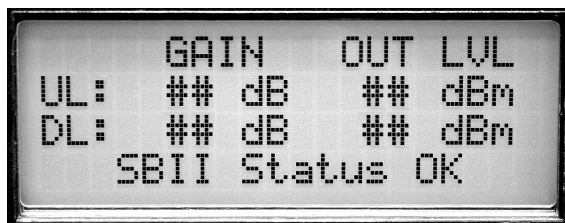

Figure 7: Normal Operational LCD Display.
- 5) The LCD display should appear similar to **Figure 7** after the self check is complete.
Once the boot-up sequence is completed (after several seconds) the LCD screen will switch to the main status display as shown in figure 7. This is the normal display for the signal booster. The system will return to this display from any other display if none of the menu interface buttons are pressed within 2 minutes. The exception is the OLC status display which does require a button press to exit. The main status display shows the uplink and downlink gain in dB as well as the uplink and downlink output level in dBm.